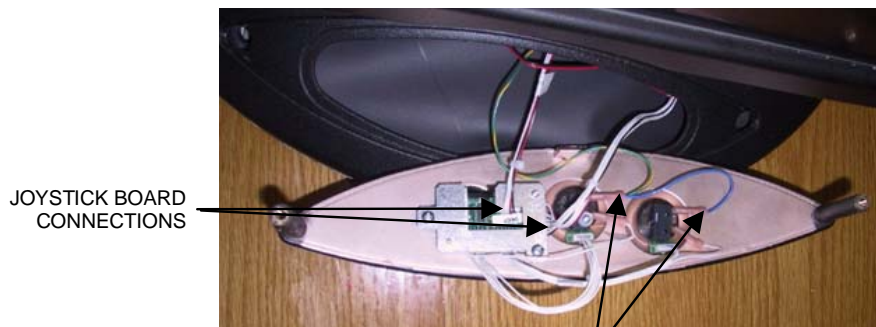

FIGURE 2 - JOYSTICK ASSEMBLY REMOVED FROM STANDARD AURORA
3. Carefully upright the game and remove the joystick assembly. Turn the assembly over and remove the two connections to the joystick board and the two ground wire connections (on non-Widescreen Aurora systems). See Figure 2.
1. Reconnect the two connections to the joystick board and the two ground wire connections (on non-Widescreen Auroras) to the new joystick assembly. See Figure 2. Turn the new joystick assembly over and install it in the game.